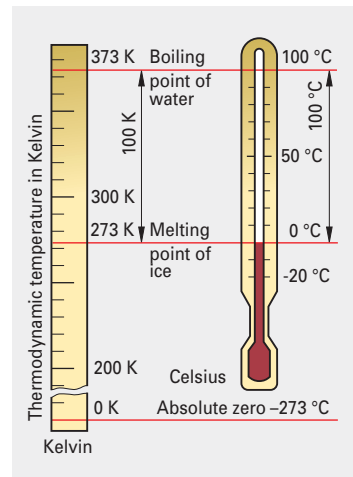

Figure 3: Temperature scales
The temperature describes the thermal state of solids, liquids or gases. One **Kelvin (K)** equals $1/273.15$ of the temperature difference between absolute zero and the freezing point of water (**Figure 3**). The most common unit of temperature is the **degree Celsius (°C)**. The freezing point of water is equal to 0°C , while the boiling point of water is 100°C .